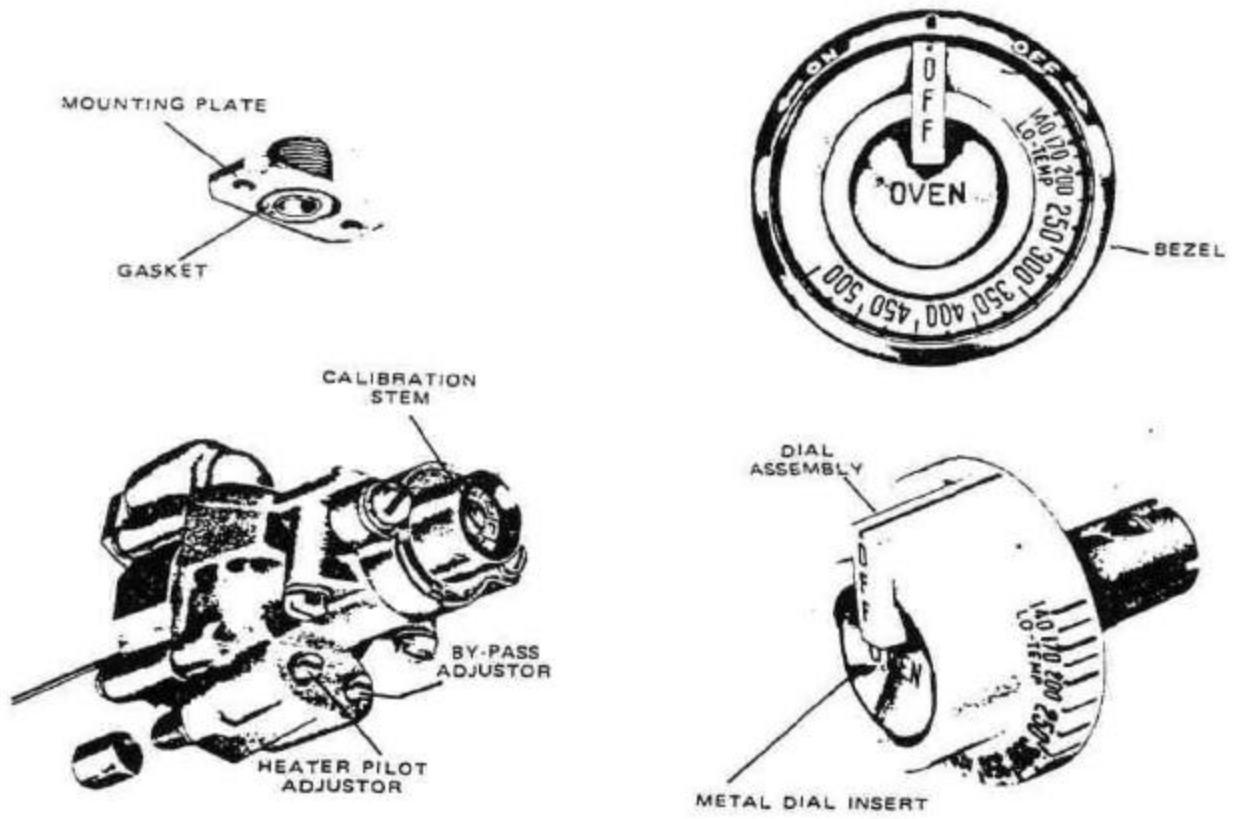

Figure 1
3. Turn the Heater Pilot adjusting screw until the pilot flame just envelops the Safety Capillary Bulb. (See Figure 1 for the adjusting screw location.)
2. Turn by-pass adjusting screw counter clockwise to full open (see Figure 1 for adjusting screw location).
3. Hold the dial firmly and insert a screwdriver through the center of the dial. Push the calibration screw inward (DO NOT TURN THIS SCREW), (See Figure 1 for location of Calibration Screw.)